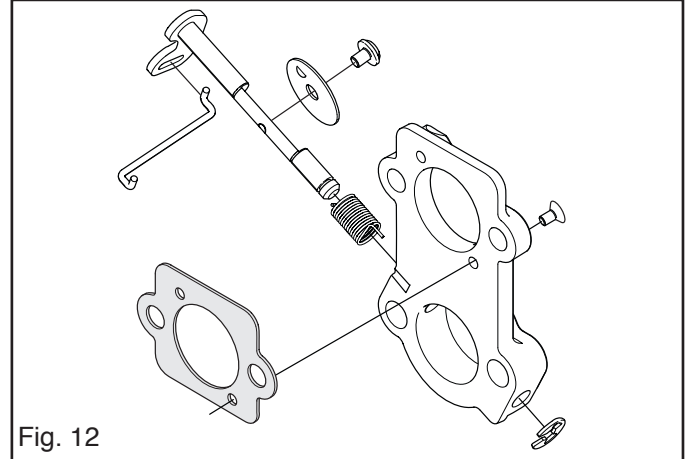

Fig. 12
13. If necessary, remove the throttle and choke valves and remove the spindles together with levers and springs. See fig. 12.
Where no figure is referred to, see fig. 12 on the previous page.